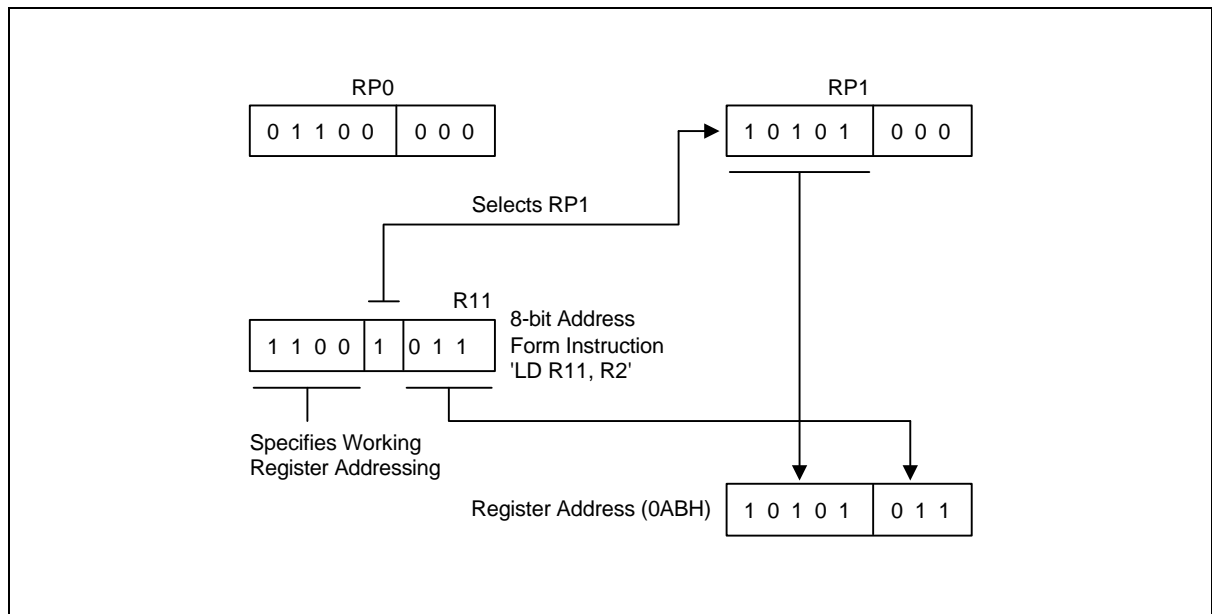

Figure 2-14. 8-Bit Working Register Addressing Example
Figure 2-14 shows an example of 8-bit working register addressing: The four high-order bits of the instruction address (1100B) specify 8-bit working register addressing. Bit 4 ("1") selects RP1 and the five high-order bits in RP1 (10101B) become the five high-order bits of the register address. The three low-order bits of the register address (011) are provided by the three low-order bits of the 8-bit instruction address. The five address bits from RP1 and the three address bits from the instruction are concatenated to form the complete register address, 0ABH (10101011B).